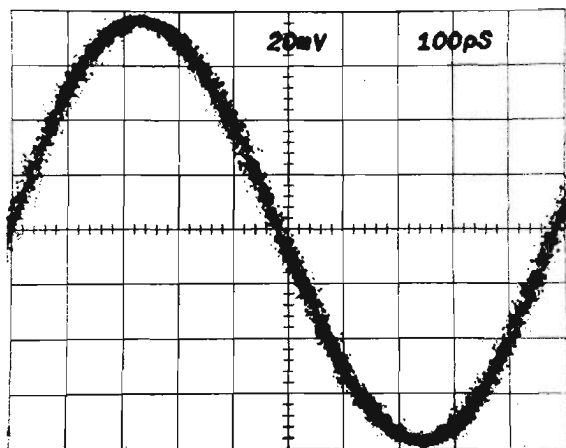

Fig. 7-8. 1 GHz Sinewave at .1 ns/DIV.
d. Change the DELAYED SWEEP 50 .1 ns and check for one cycle in ten divisions ± 0.3 division (see Fig. 7-8).